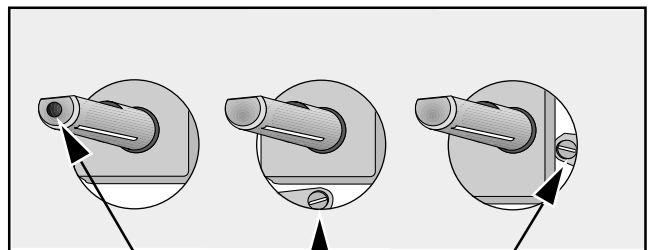

Fig. 9
- With a thin screwdriver, adjust the by-pass screw (see Fig. 9). If changing from natural gas to LPG, completely tighten clockwise the screw, until a small regular flame is obtained.